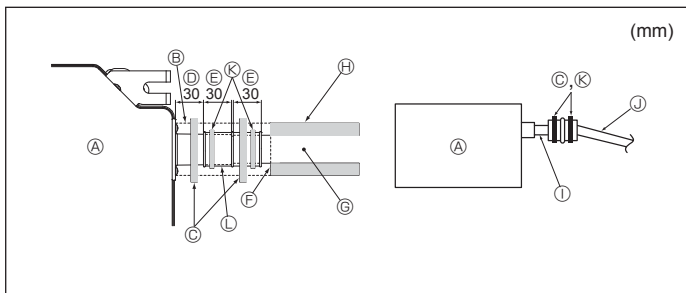

Fig. 3-2
1. Connect the drain socket (supplied with the unit) to the drain port. (Fig. 3-2)